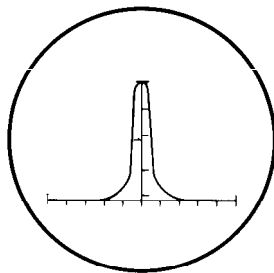

Figure 18
- () Now, alternately adjust the cores of transformers T2 and T3 for the most symmetrical pip (as shown in Figure 18) while maintaining maximum pip amplitude.